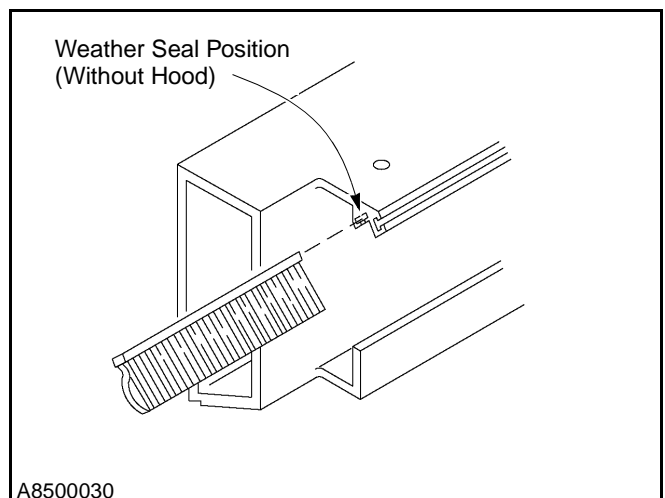
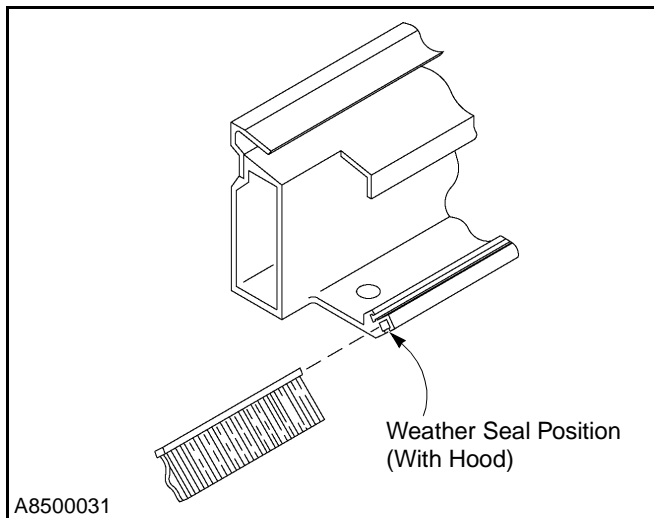

Figure 83
Figure 84
3. Insert new weather seal in channel. (See Figure 83 and Figure 84 for positions.)